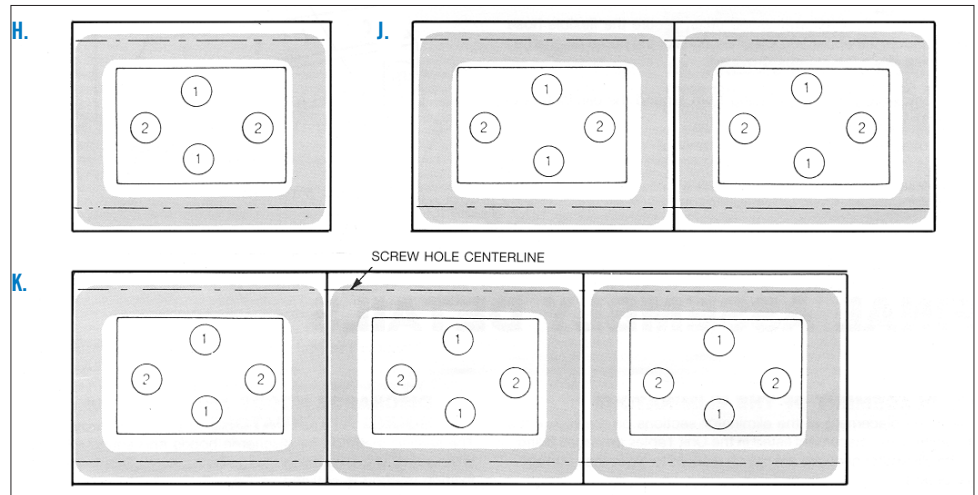

Figure 5.
6. On units with more than one casing section, install the remaining casing sections using the same procedure as with the first. However, when installing two or more casings on the pan-fan section, sealer must be applied to both cross flanges. See arrangements J & K in Figure 5.